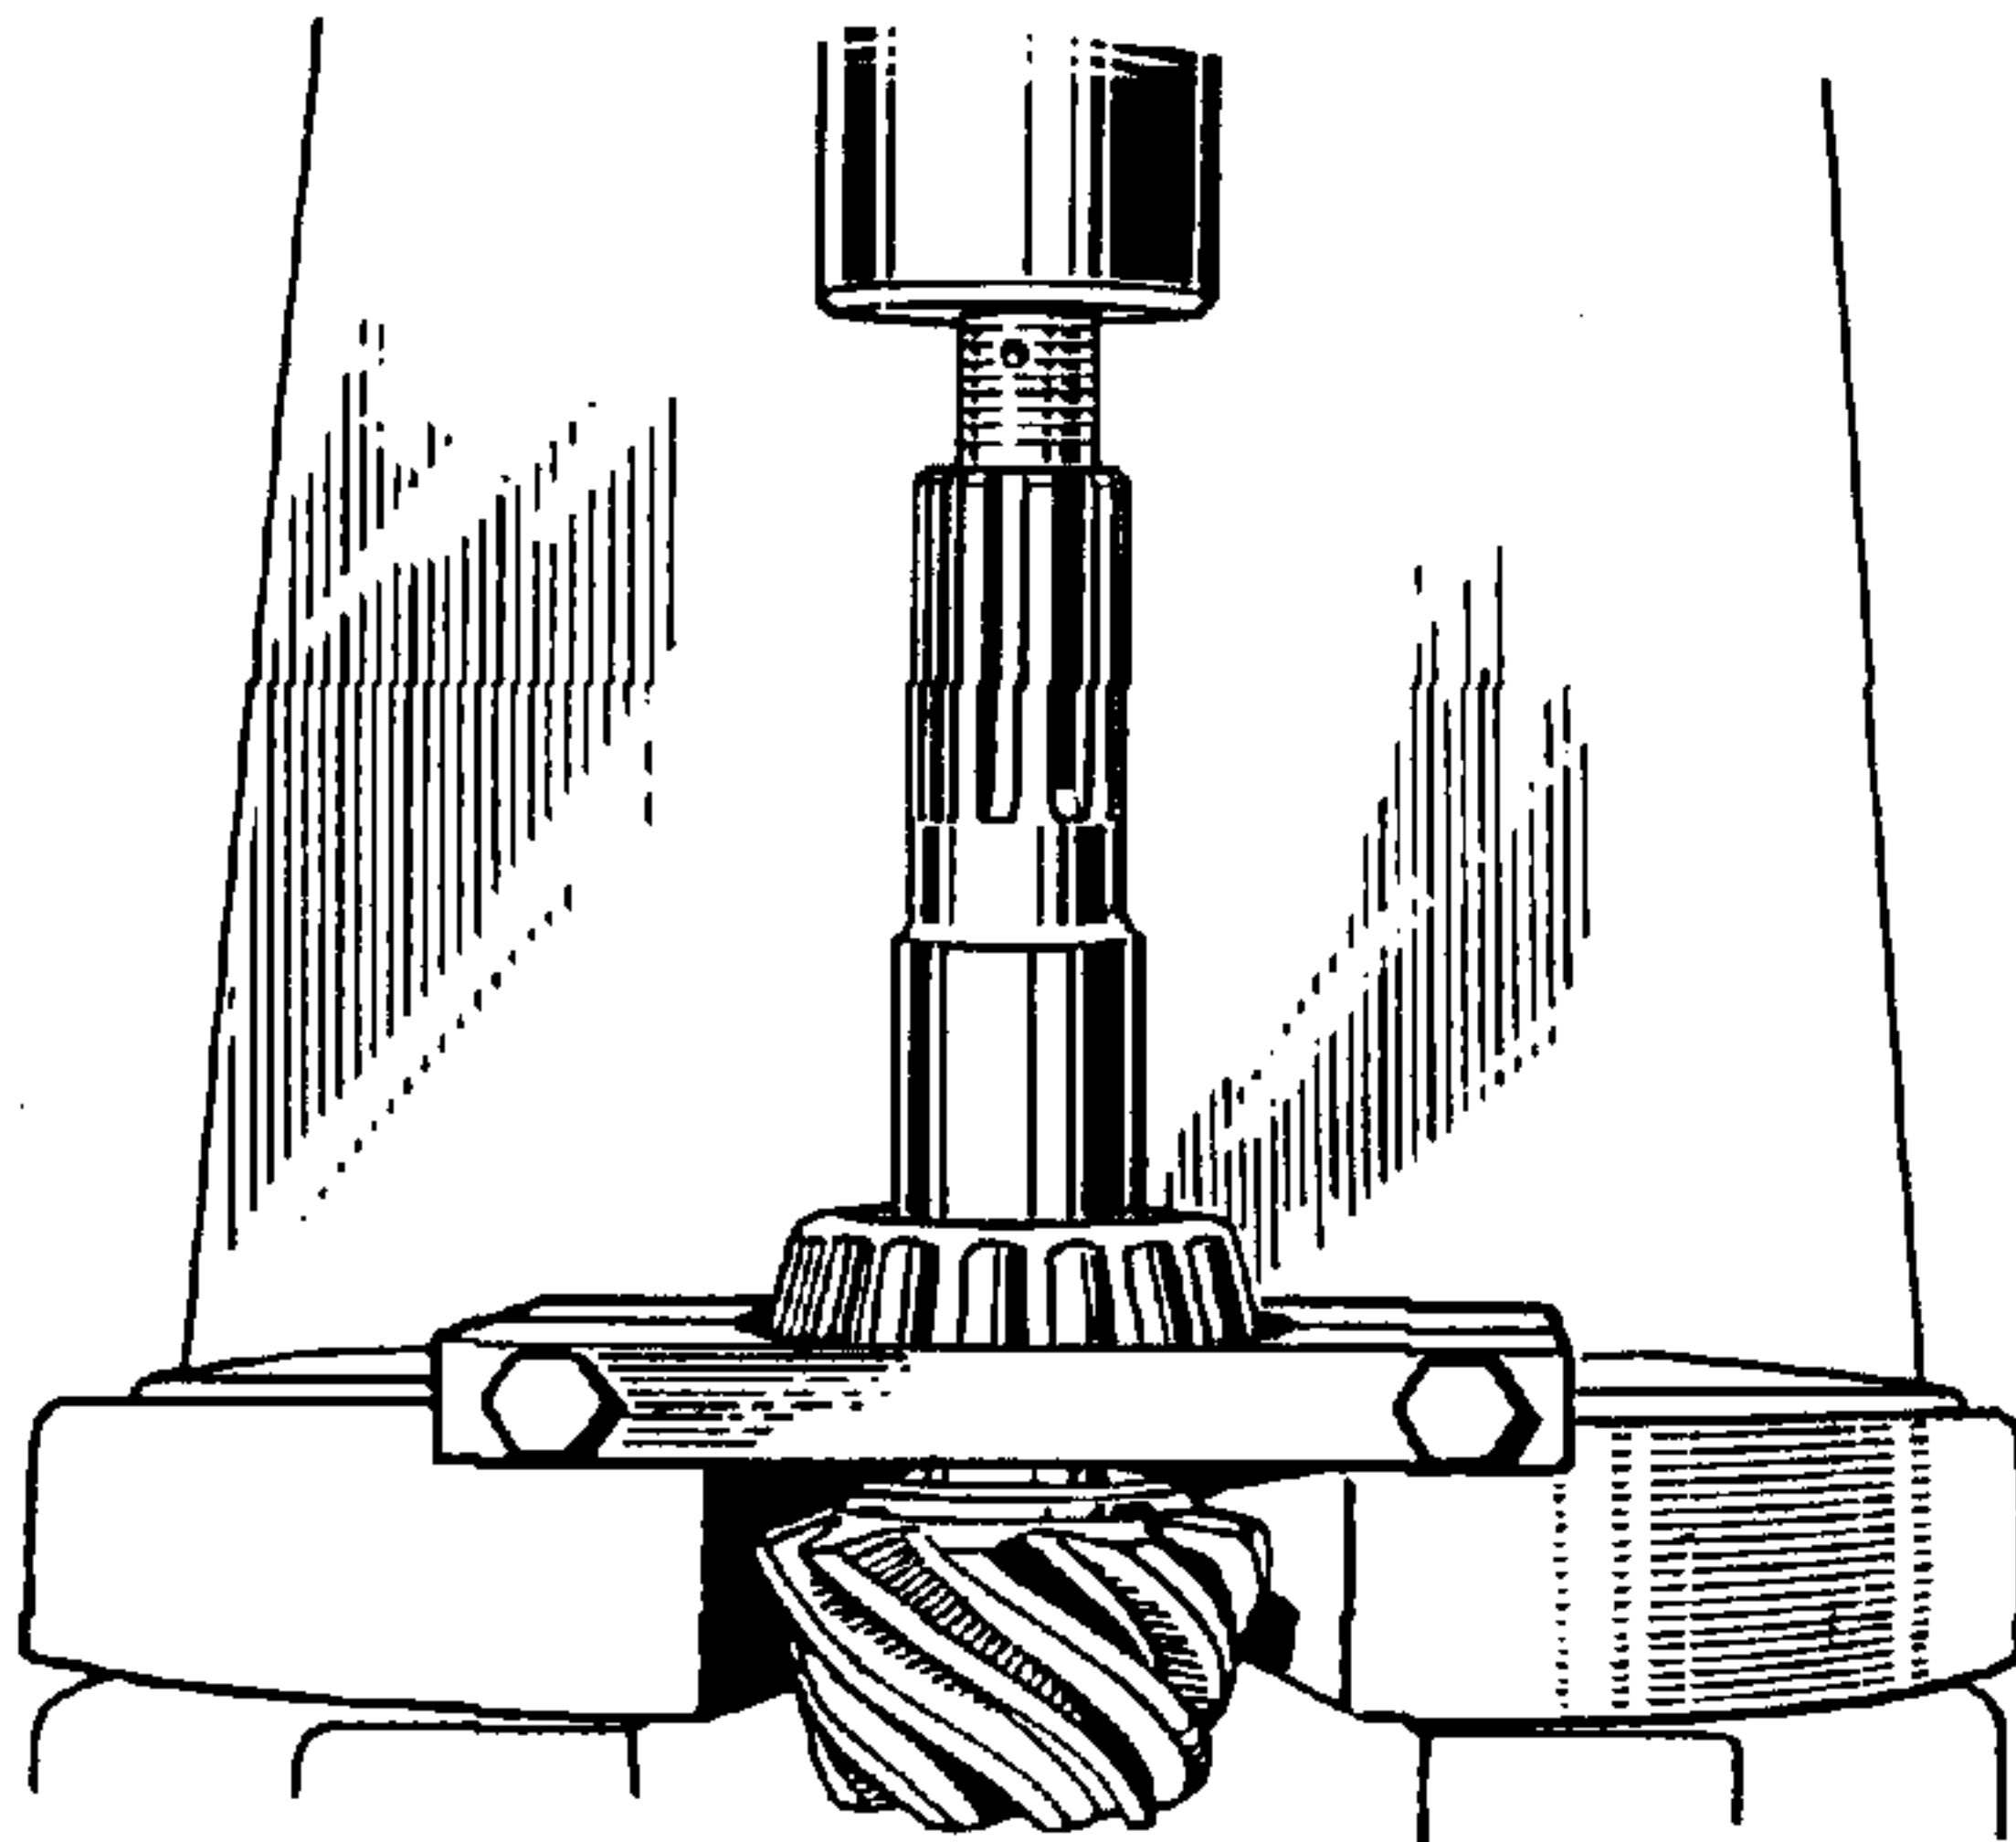

FIG. 5—REMOVING PINION BEARING CONE
12. To remove the drive pinion rear bearing cone use bearing removing tool or press off in an arbor press, Fig. 5.